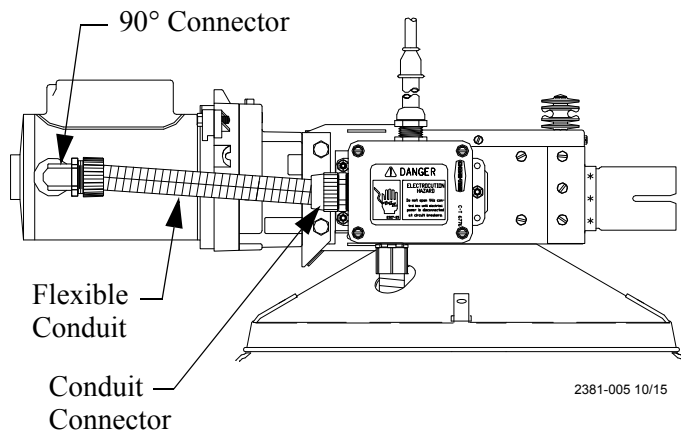

Figure 36. Conduit Installation
6. Single Phase: Install the 90 degree connector, flexible conduit, electrical wire, and conduit connector as shown in **Figure 36**.